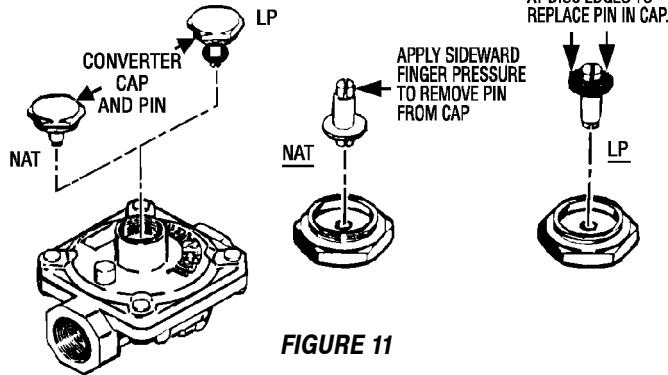

FIGURE 11
B. INVERT CAP IN APPLIANCE PRESSURE REGULATOR (See figure 11)
B. INVERT CAP IN APPLIANCE PRESSURE REGULATOR. (See figure 11).